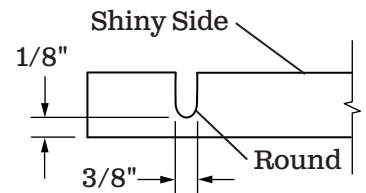

Figure 4
! IMPORTANT: See Figure 4. Router depth (all material thicknesses) must be so 1/8" of material is remaining. Routed too deep the liner may tear. Not Routed deep enough the liner may not conform to the interior shape of the dump.
- 1) See Figures 4, 9, & 10. Trailer/body, measure the distance from the center line mark (in STEP 2) to point A (beginning of shedder) and transfer measurement to shiny side of liner from center line. Mark both sides of liner at front and back.
- 5) See Figure 4. Score liner along chalk mark. There should be a total of 8 scores.
1) See Figures 4, 7, & 8. Trailer/body, measure the distance from the center line mark (in STEP 2) to point A (beginning of shedder) and transfer measurement to shiny side of liner from center line. Mark both sides of liner at front and back.
4) See Figure 4. Score liner along chalk mark. There should be 4 total scores.
1) See Figures 4, 5, & 6. Trailer/body, measure the distance from the center line mark (in STEP 2) to point A and transfer measurement to shiny side of liner from center line. Mark both sides of liner at front and back.
3) See Figure 4. Score liner along chalk marks. There should be 2 total scores.